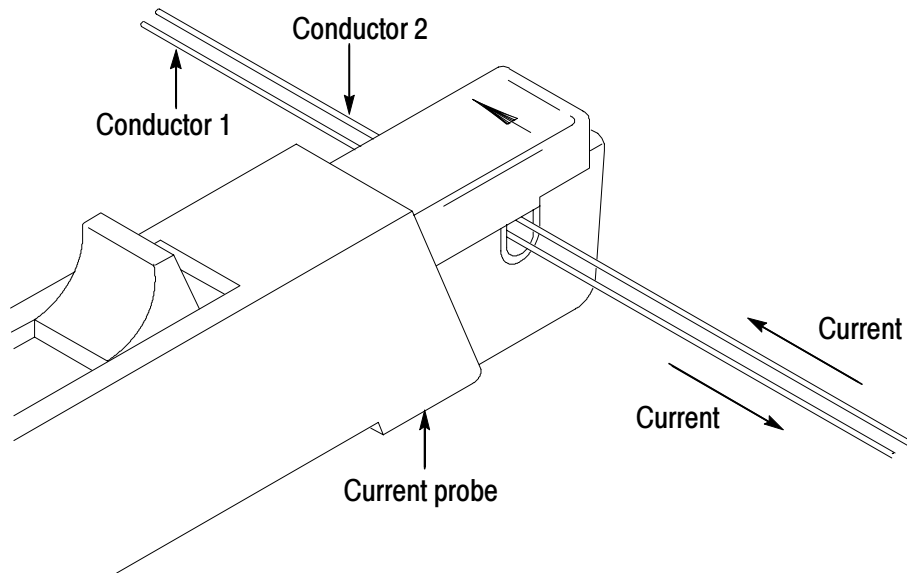

Figure 5: Measuring Differential Current and Nulls
1. Orient the two conductors under test so that the polarities oppose each other. Clamp the current probe around the two conductors as shown in Figure 5.